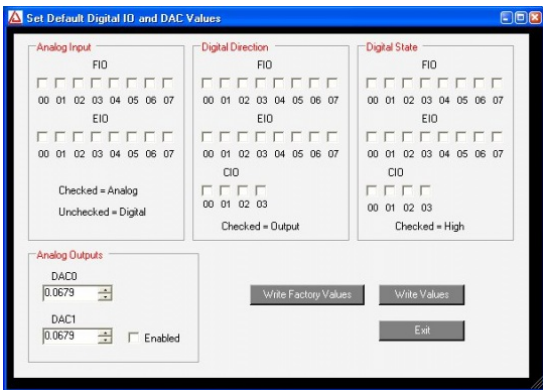

Figure 1-2. LJControlPanel U3 Configure Defaults Window
- Config. IO Defaults: Opens the window shown in Figure 1-2.
Figure 1-2 shows the configuration window for U3 defaults. These are the values that will be loaded by the U3 at power-up or reset. The factory defaults, as shown above, are all lines configured as digital input.